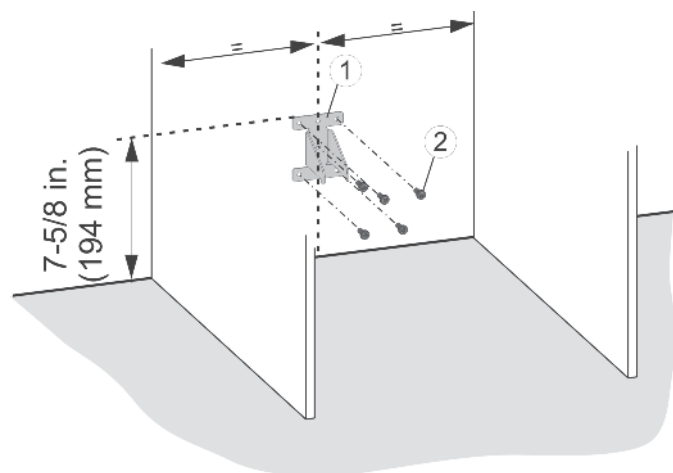

Fig. 26
► Install the anti-tip device Fig. 26 (1) using appropriate screws Fig. 26 (2).